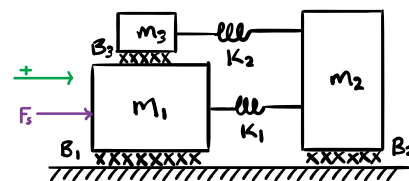

Figure exe.6: Exercise emech. part (c)
- The translational mechanical system of Fig. exe.6, force source, coordinate arrow in green.